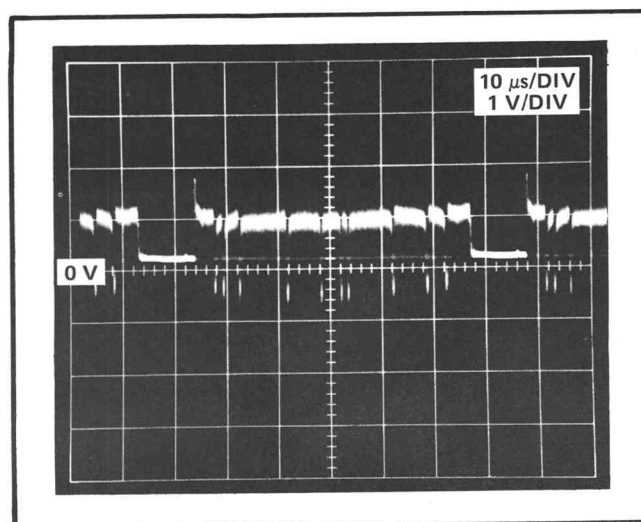

Fig. 5-26. Waveform at TP765 with Cancel Bal (R798) properly adjusted.
b. Fig. 5-26 shows the Cancel Balance correctly set.